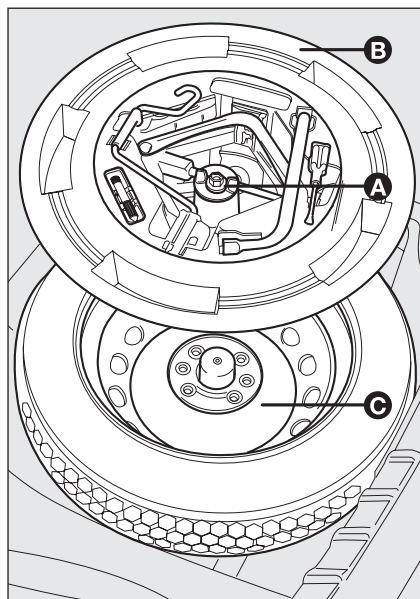

fig. 15
- ☐ Stow the spare wheel **C-fig. 15** in the space provided in the boot;
- ☐ Insert the partially open jack into the container **B-fig. 15** and force it slightly into its seat so that it does not vibrate when the car is moving;
- ☐ Stow the container complete with tools on the spare wheel and secure everything with the clamping device **A-fig. 15**;